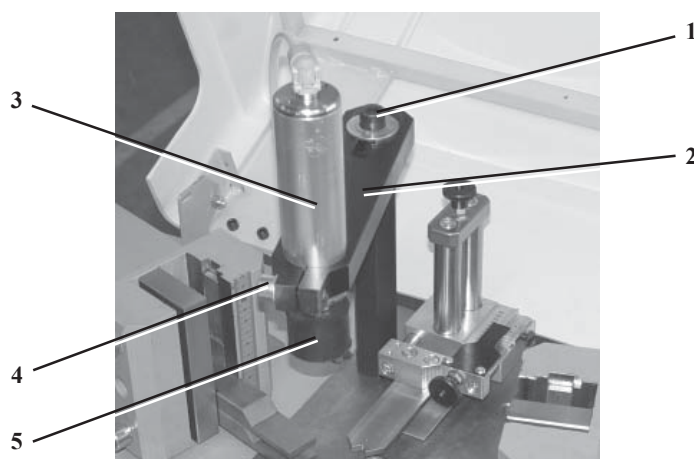

Fig. 5.3
- Loose the screw (1, fig. 5.3).
- Swing the profile clamp holder (2) until the cylinder (3) is aligned with the profile.
- Loose the screw (4).
- Move downward the cylinder (5) until its plunger is at a distance of 5÷10 mm from the profile.
- Tighten the screw (4).